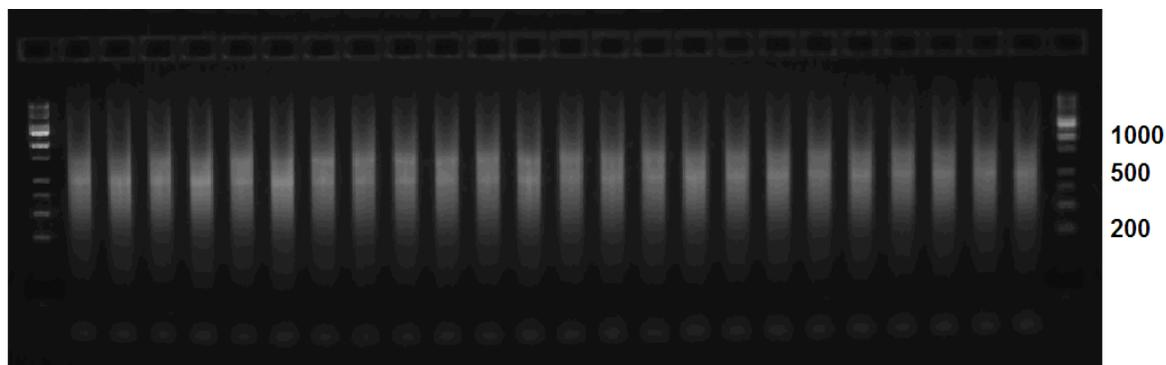

Figure D.1 Example of PCR Products Run on E-Gel 48 2% Agarose Gel for 22 min. Average Product Distribution is Between ~ 250 to 1100 bp.
11. Verify that the PCR product distribution is between ~ 250 bp to 1100 bp (Figure D.1).
- 11.** Verify that the PCR product distribution is between ~250 bp to 1100 bp (see Figure D.1 on page 329).